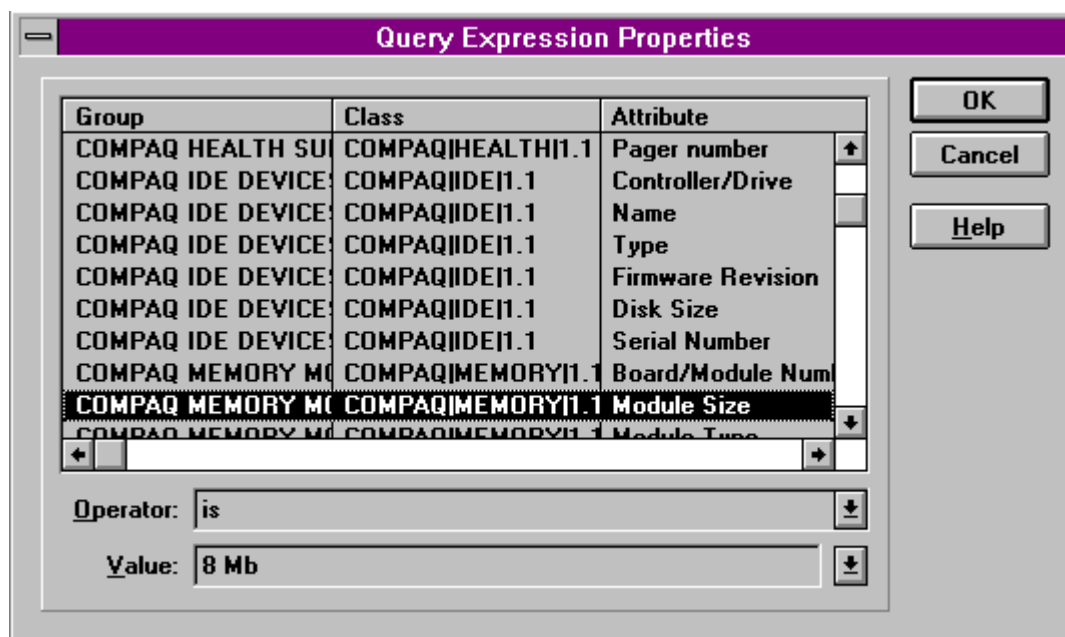

Figure 6-19. Finding the Module Size attribute
6. Scroll through the list until you find the *Module Size* attribute. An example of the Query Expression Properties window is shown in Figure 6-19.